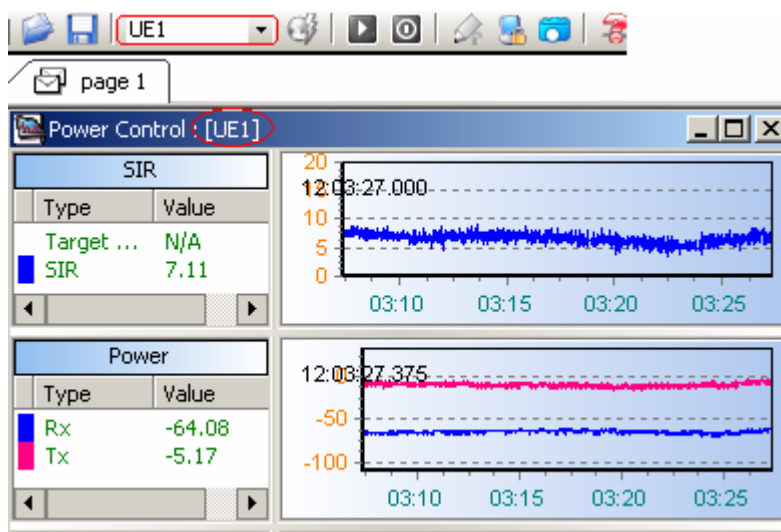

Figure 6-5 Parameter window of the selected device
- If a device to be displayed is of the same type as that selected in the **Choose Device** list, the Probe opens the parameter pane of the device. If several device of the same type is available in the **Device** list, the parameters of the selected device are displayed in the pane, as shown in Figure 6-5.